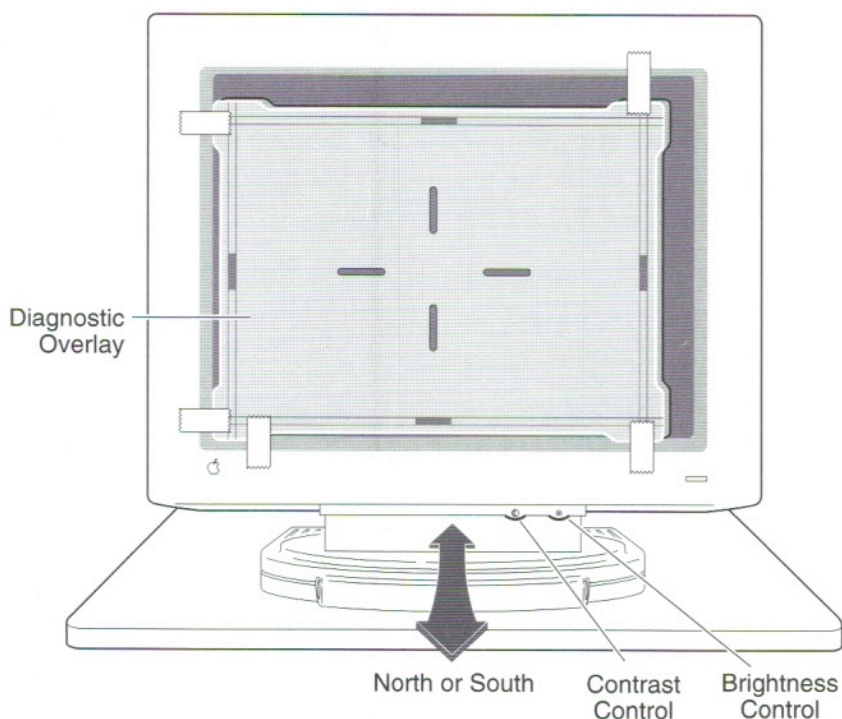

Figure 67. Diagnostic Overlay and Controls
1. Tilt the monitor up slightly and place the diagnostic overlay (see Figure 67) against the inside left and bottom edges of the bezel. Tape the overlay to the bezel. When using the diagnostic overlay, adjust your head until you see only two etched lines. These lines define the acceptable limits of the raster.
2. Set the external brightness control (see Figure 67) to detent (midrange).
3. Turn the contrast control clockwise to maximum contrast (see Figure 67).